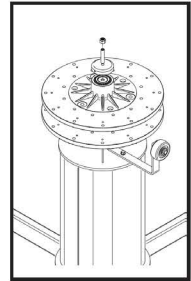

Fig 4
4. Place the tapered end of the bearing into the top race of the printwheel assembly and hand tighten the cap on screw until snug. The cap on screw can then be tightened an additional $\frac{1}{4}$ turn by inserting a rod into the hole in the top of the bearing cap. (Fig 4)